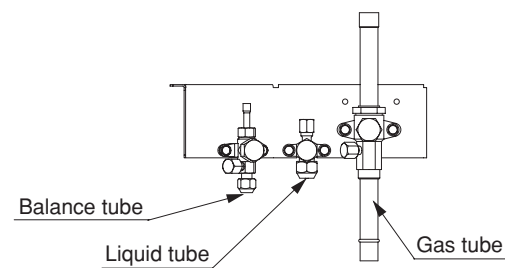

Fig. 7-2
- (6) Both the gas and liquid tube service valves are open. If not, open them now. (Fig. 7-2)
- (7) Request that the customer be present for the trial run. Explain the contents of the instruction manual, then have the customer actually operate the system.
- (8) Be sure to give the instruction manual and warranty certificate to the customer.
- (9) When replacing the control PCB, be sure to make all the same settings on the new PCB as were in use before replacement.